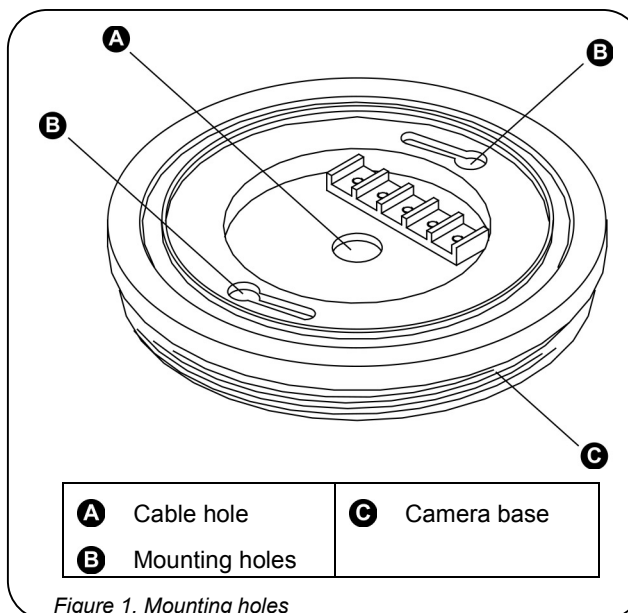

Figure 1. Mounting holes
- 2) Mark the position of the mounting holes and cable hole (see Figure 1).